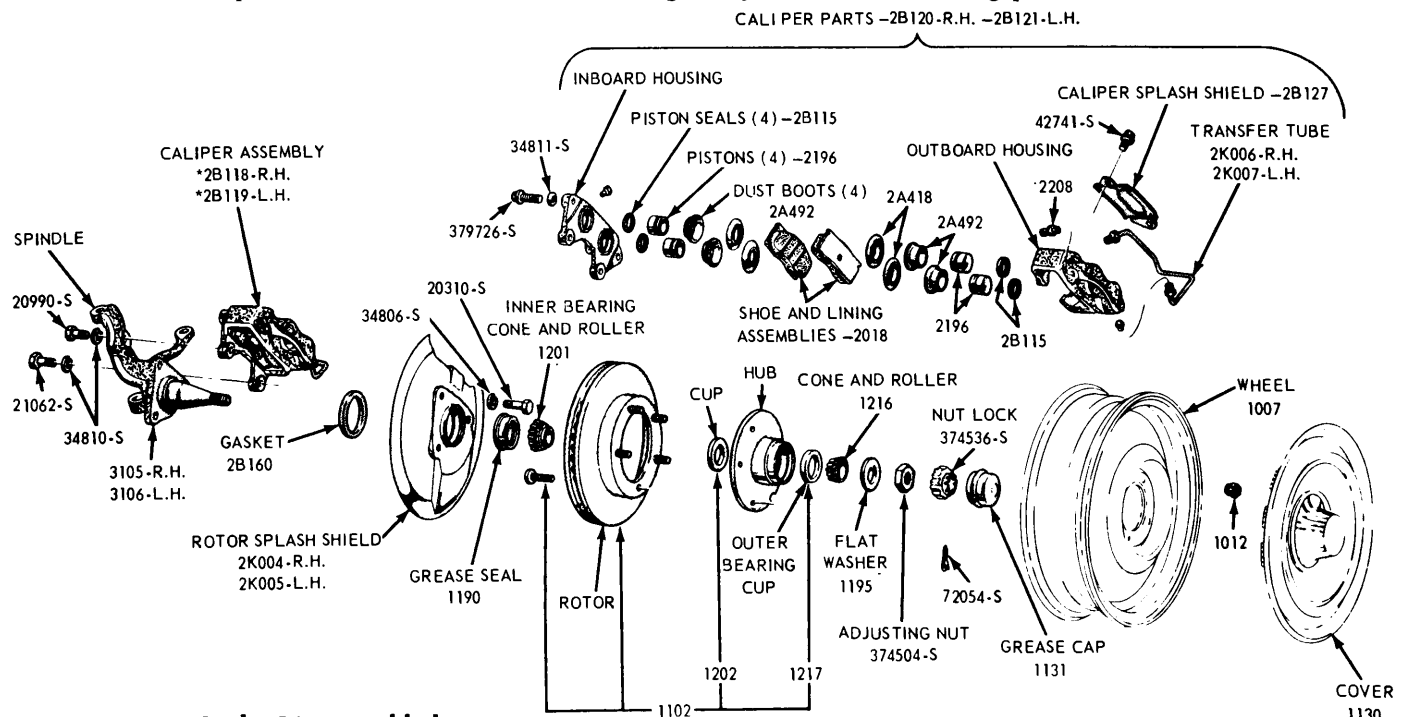

FIG. 12 - Disc Brake Disassembled
1. Remove the wheel and tire assembly from the hub and rotor assembly (Fig. 12). Be careful to avoid damage or interference with the caliper splash shield, bleeder screw fitting or transfer tube.
1. If the rotor is being replaced, remove the protective coating from the new rotor with carburetor degreaser. Pack a new set of bearings with specified grease, and install the inner bearing cone and roller assembly in the inner cup. Pack grease lightly between the lips of a new grease retainer, and install the retainer (Fig. 12).
2. Remove the three bolts that retain the splash shield to the spindle, and remove the shield (Fig. 12).
2. If the shield is bent, straighten it out before installation. Position the shield to the spindle, install the retaining bolts, and torque to specification (Fig. 12).